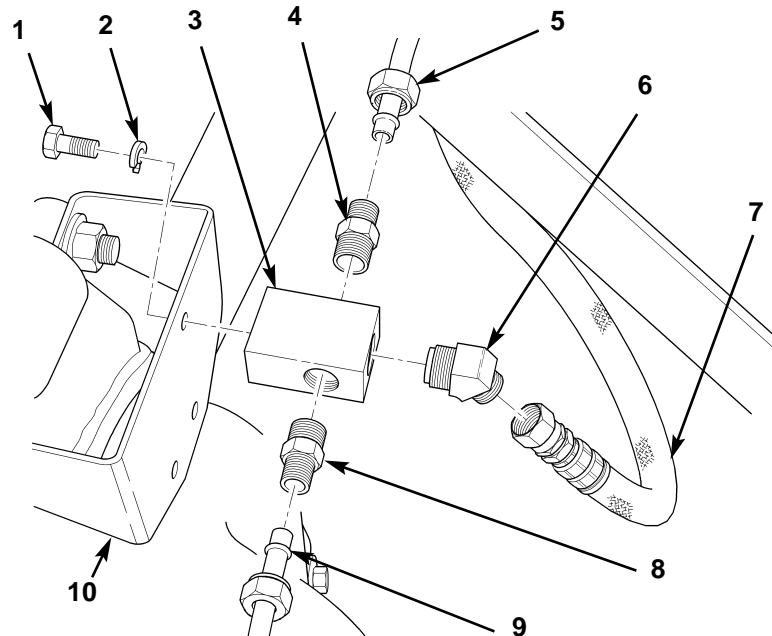

Figure 1. Removing Mountable Tee from Rear-Rear Axle Bracket.
1. Disconnect hose assembly (figure 1, item 7) and two tubes (figure 1, items 5 and 9) from elbow (figure 1, item 6) and two adapters (figure 1, items 4 and 8) on mountable tee (figure 1, item 3).
2. Remove elbow (figure 1, item 6) and two adapters (figure 1, items 4 and 8) from mountable tee (figure 1, item 3) and remove bolt (figure 1, item 1), lockwasher (figure 1, item 2), and mountable tee (figure 1, item 3) from top hole of rear-rear axle bracket (figure 1, item 10). Discard lockwasher (figure 1, item 2).